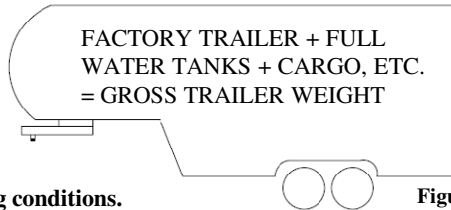

Figure 2
- Towing vehicle must have a manufacturer's rated towing capacity equal to or greater than the gross trailer weight (dry weight of the trailer plus payload of the trailer). (See Fig. 2)
Gross Trailer Weight (Figure 2): \_\_\_\_\_.